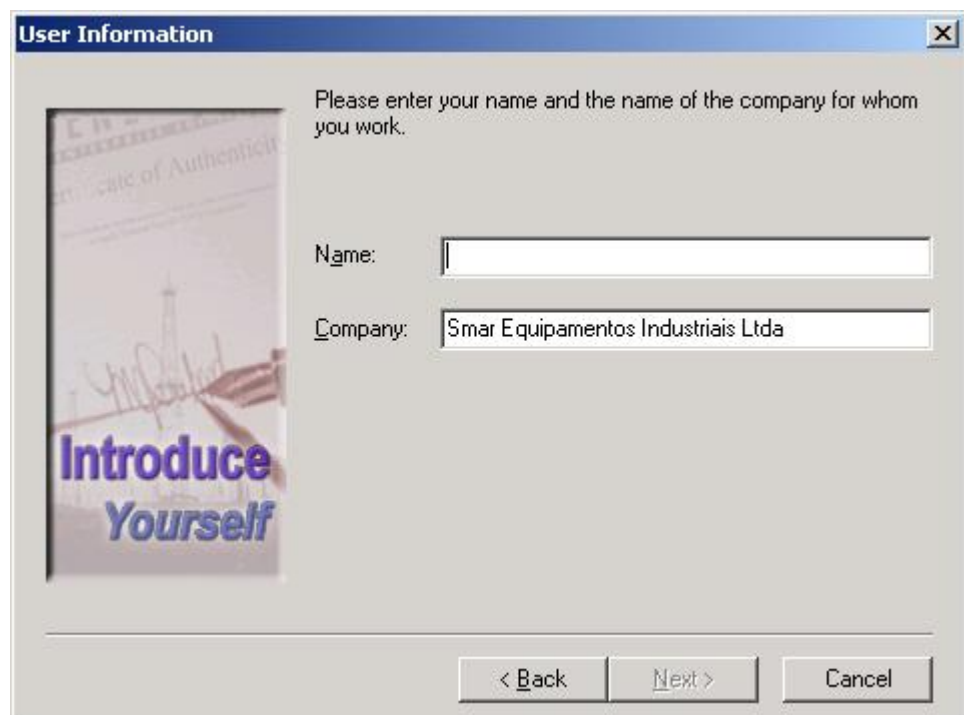

Figure 3.3. User Information Dialog Box
7. The **User Information** dialog box appears, as shown in **Figure 3.3**. Type in your name and your company's name, and then click **Next**.